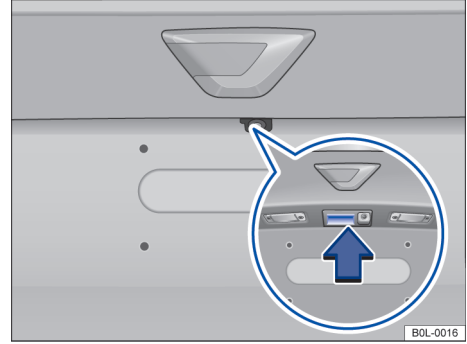

Fig. 49 Open the tailgate from the outside
- Press the button  on the vehicle key to unlock the tailgate or fully unlock the vehicle, and open the tailgate by pressing the button → Fig. 49 (arrow);
- Or: Press the button  on the vehicle key until the tailgate automatically opens for several millimeters, and open the tailgate by pressing the button → Fig. 49 (arrow);